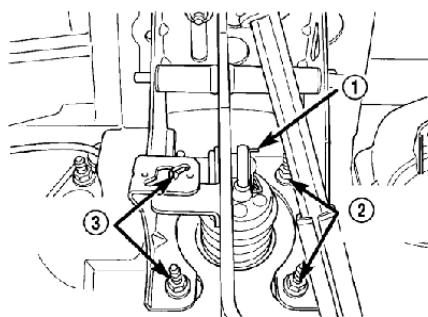

Figure 3-17 Brake supercharger fixing screw cap
(6) Pick off the clip and pull out supercharger input lever from brake pedal (Figure 3-17).
(7) Screw off fixing nuts for brake supercharger (Figure 3-17).
(8) Slip forward the supercharger and remove clutch master cylinder.
(9) Remove clutch master cylinder from the clutch pedal and check the plastic release rod snap ring. In case of any damage (crack), it is requisite to replace the snap ring.
(10) Screw off 2 fixing screw caps for clutch master cylinder.
(11) Remove autostyly joint support.